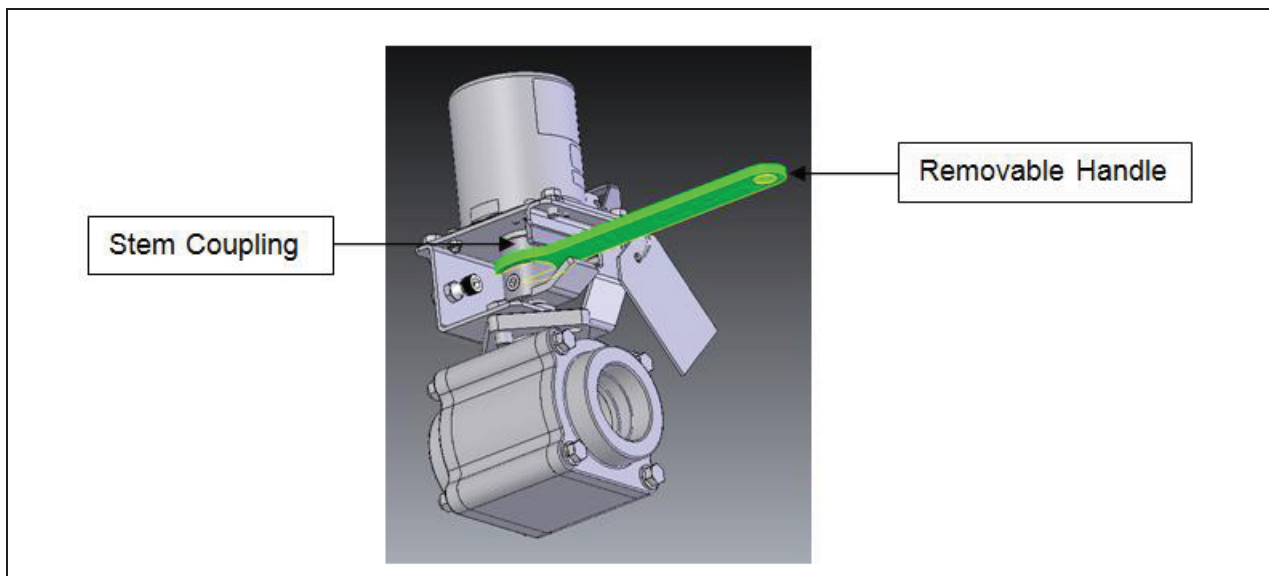

Figure 4 - How to Use Removable Handle
2. After welding, open and close Valve several times using removable Handle (see Figure 4), to be sure that it operates smoothly. Handle is to engage with flats on Stem Coupling as shown in Figure 4.